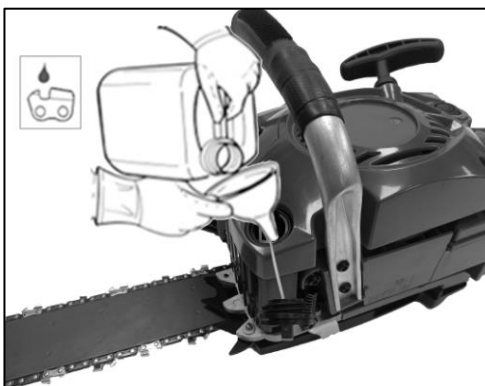
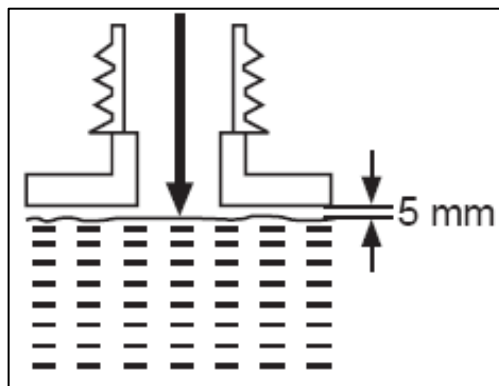

Fig.16
Fig. 17
- 3) Fill suitable chain lubricating oil into the tank (Fig.16). Don't overfill and leave approximately 5 mm of space between the top of the oil and the inside edge of the tank to allow for expansion. (Fig.17)